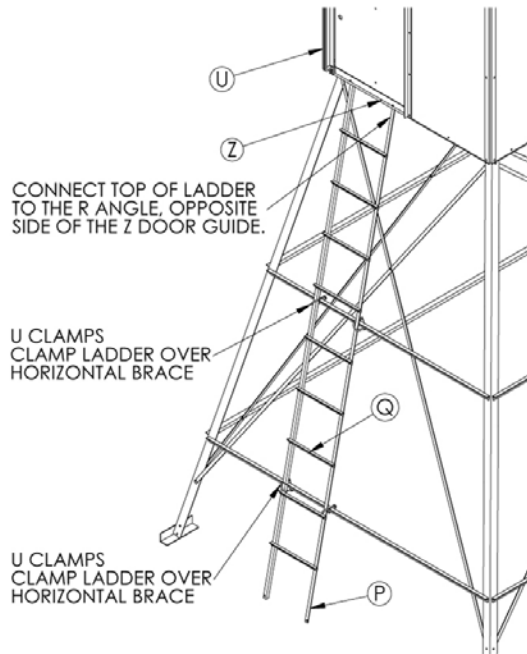

Figure 4
1. Remove the (K) clips from this package and assemble the blind, being sure to install these clips according to the blind instructions.
3. Attach the (U) handle to the (S) corner post nearest the door opening. Remove the first and second bolts from the bottom of the (S) corner post. Position the (U) handle and attach by reinstalling the bolts. (Fig. 4)
7. Assemble & install the ladder using bolts and U-bolts as pictured. Attach top two holes in ladder runners using existing bolts used to attach the “Z” plate, underneath the blind (opposite the “Z” and behind the angle iron supporting the floor). (Fig. 4)